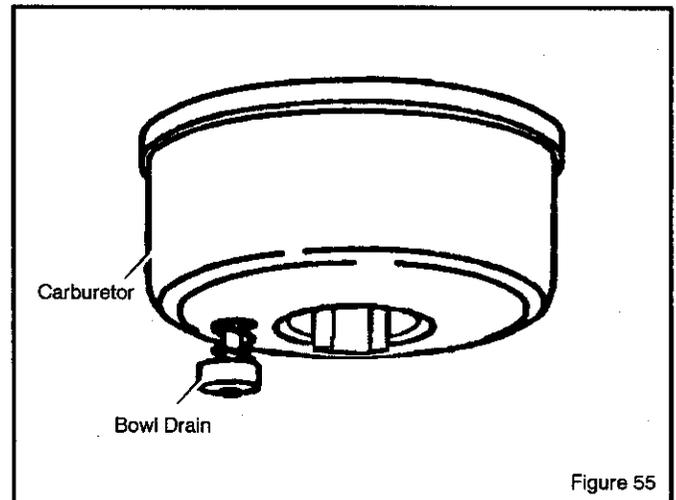

Figure 55
1. To remove gasoline, run engine until tank is empty and engine stops. Then drain remaining gasoline from carburetor by pressing upward on bowl drain located on the bottom of carburetor (see Figure 55).